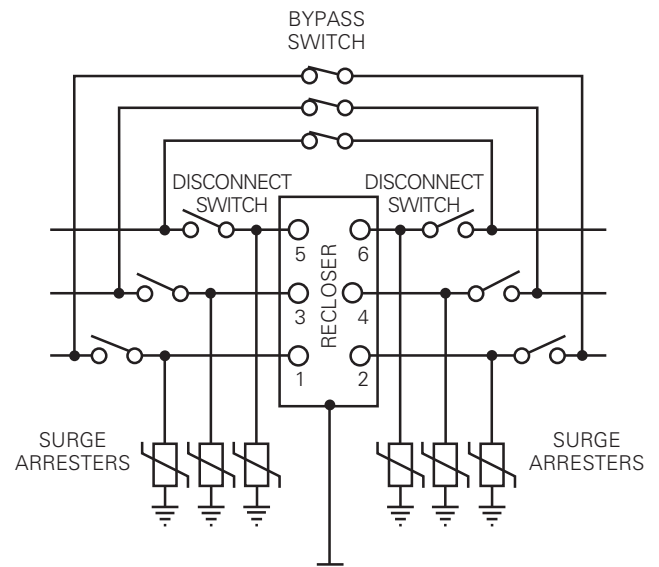

Figure 7. Connection diagram shows complete surge protection and illustrates switches to facilitate maintenance
6. Make the high-voltage line connections. (Figure 7).
Note: The six disconnect switches and the three bypass switches shown in Figure 7 are not required, but they do facilitate maintenance.